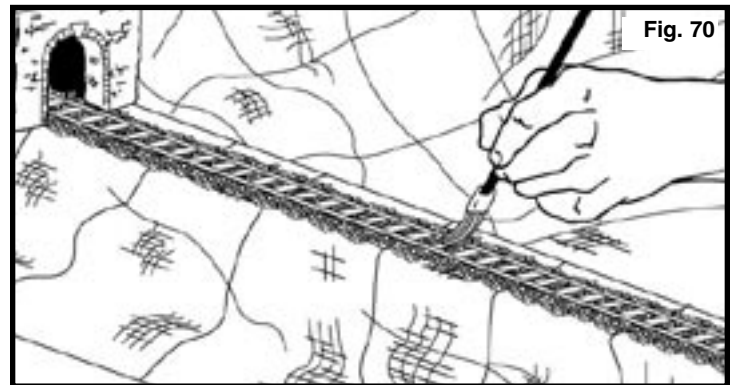

Fig. 70
- C. Brush off excess Ballast from ties and rails and spread evenly with small dry paintbrush (Fig. 70).